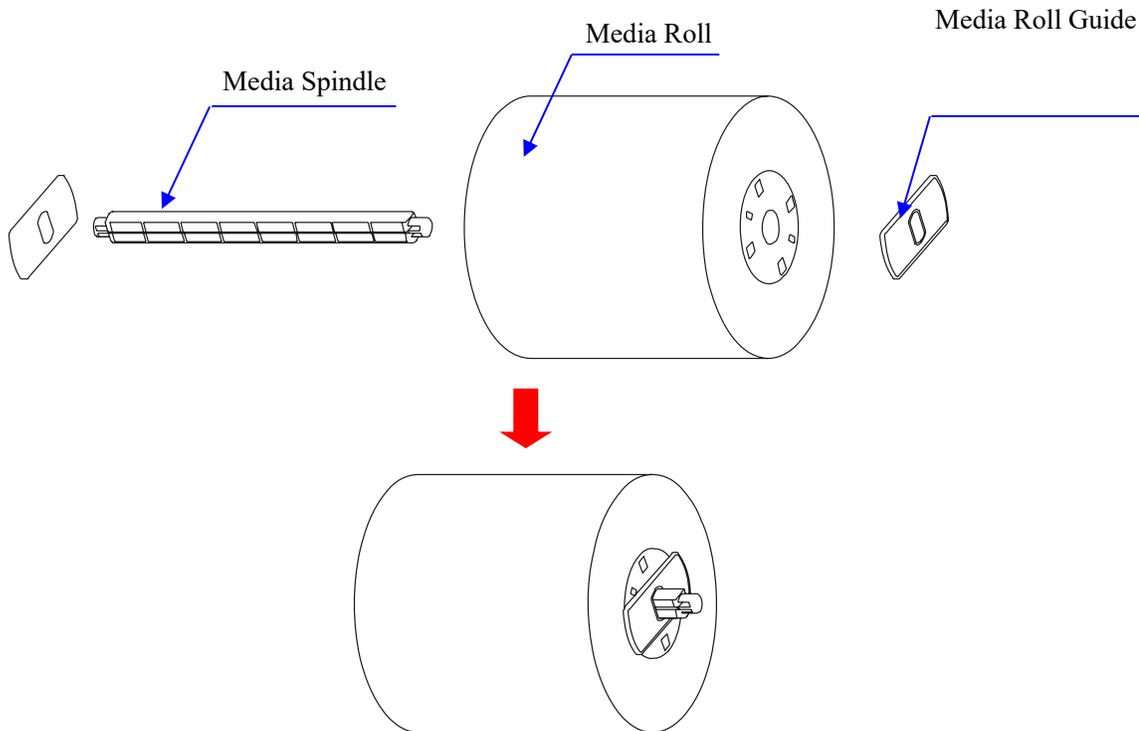

Figure 2-14
4. Insert the two Media Roll Guides on each side of the spindle, and push them close to the Media Roll (see figure 2-14).